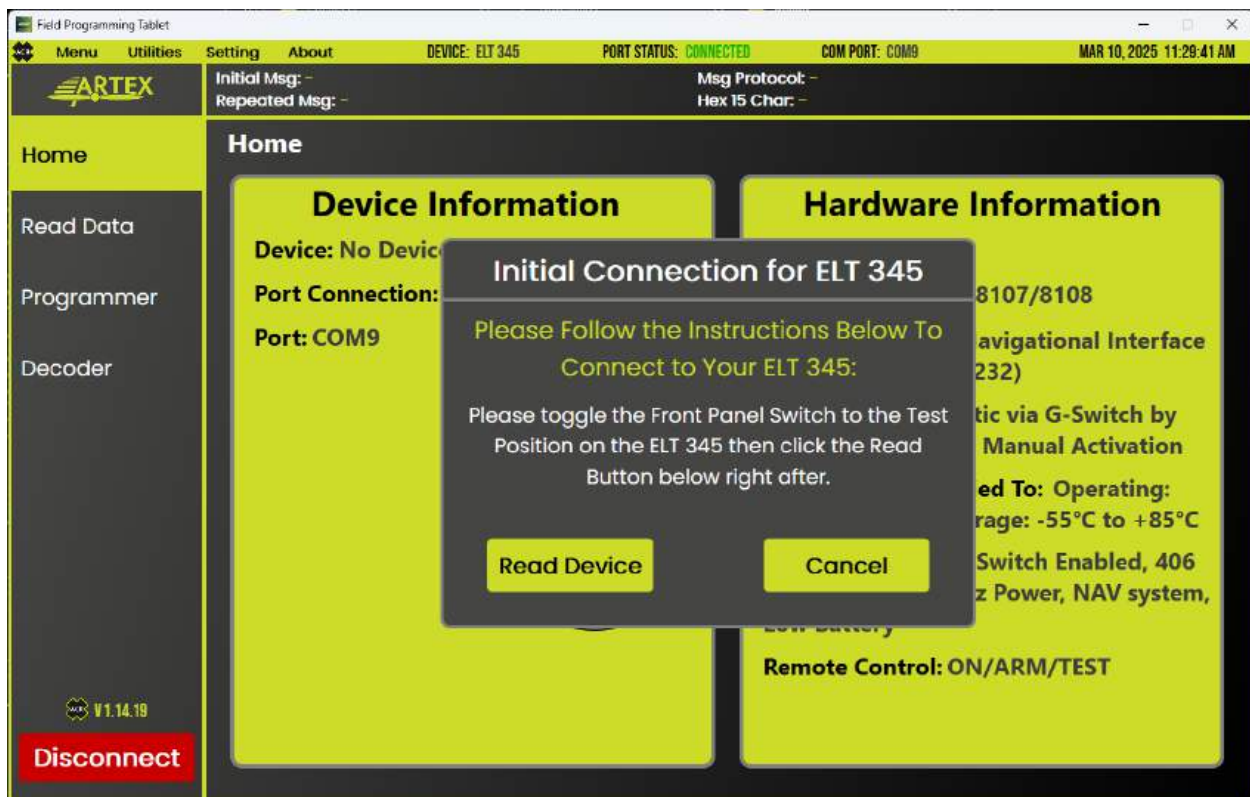

Figure 7 - FPT ELT 345 Initial Connection Popup
2. For initial connection to an ELT 345 or ELT1000, a pop-up prompt appears (Figure 7) after the **Connect** button has been selected on the FPT Device Connection Wizard screen.